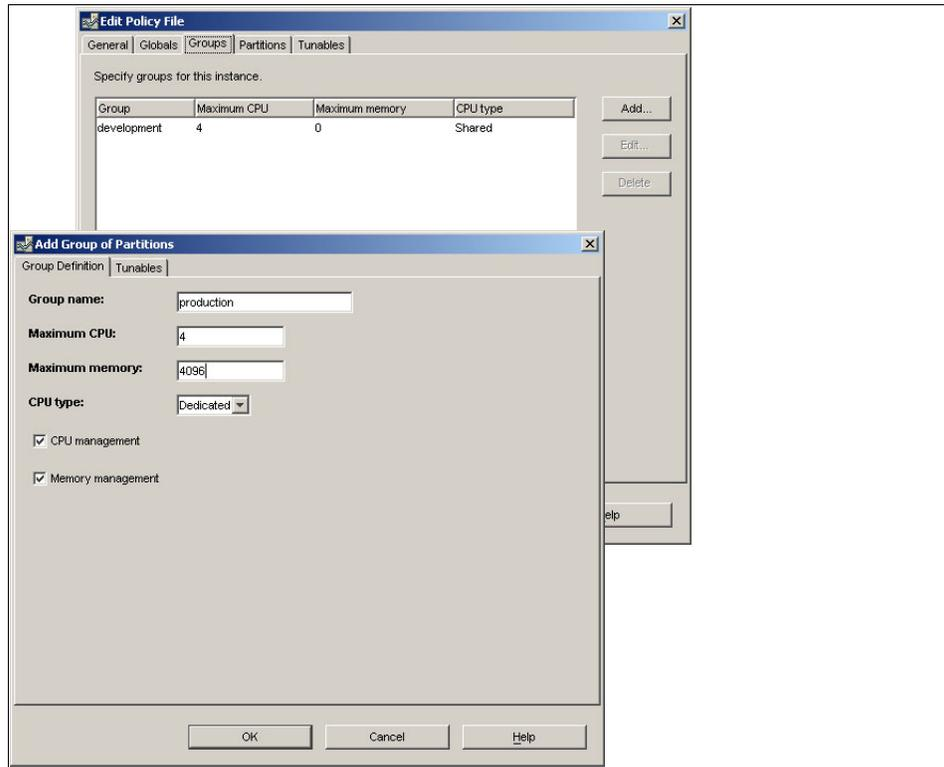

Figure 6-18 PLM dialog to add a group of partitions to an existing policy file
2. Click the **Groups** tab, and then the **Add** button. This brings up the window shown in Figure 6-18 (the same one used in step 5 on page 398 of the first scenario). In this example, we create a group called production. Click **OK**.